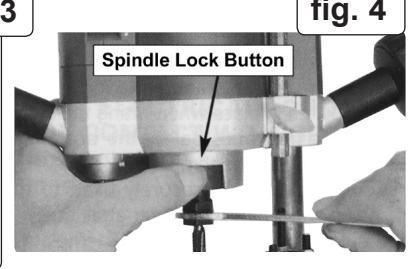

fig. 4
- Press and hold in the spindle lock button while tightening the collet nut with the spanner provided. See fig. 4.